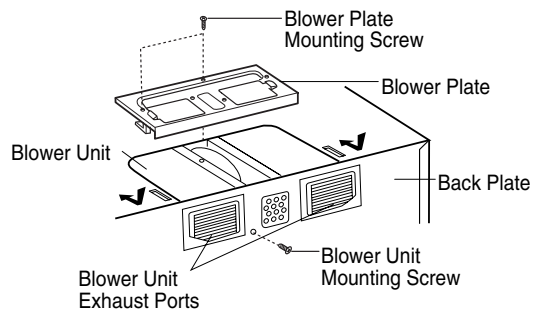

Figure 18
7. Reattach the blower plate to cabinet so the exhaust ports and blower plate opening are aligned. Attach with one blower unit mounting screw and then one or several blower plate mounting screw(s). See Figure 18.